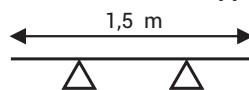

Figure 1
- Where 2 or more busbars are to be used side by side, the installation spacing rules in Figure 1 should be followed.